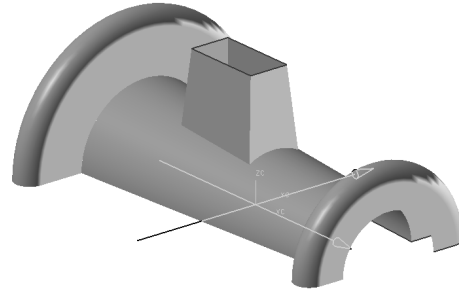

Figure 11-95 The resulting extruded surface
3. Extrude the sketch through a distance of 50 in the downward direction and the draft angle of -5. The resulting extruded surface model is shown in Figure 11-95.